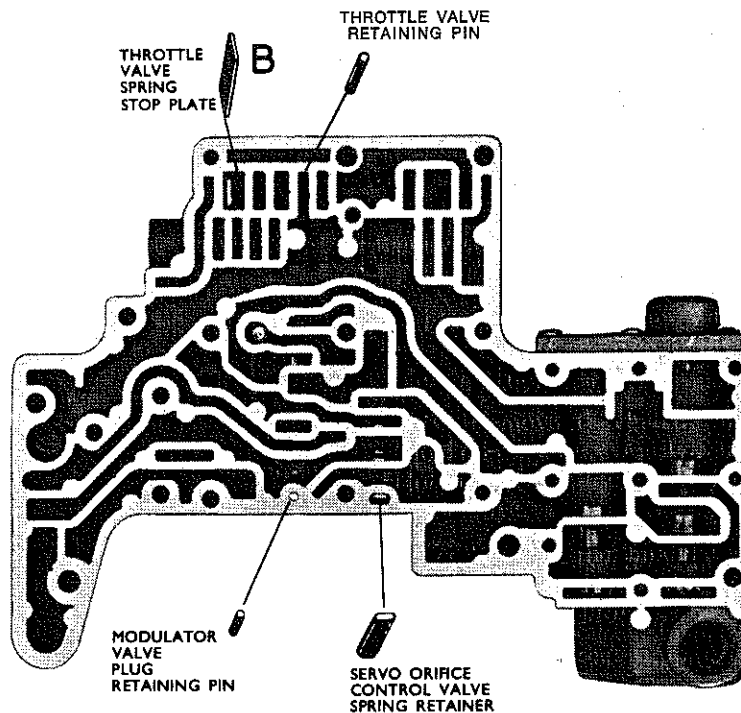

Fig. 32—Lower valve body assembly
(4) Remove 4 screws, 25 mm (1") long and 50 mm (2") long, to remove the governor line plate allowing the separating plate to be detached. Note position of 3rd line ball valve and spring (see Fig. 32).